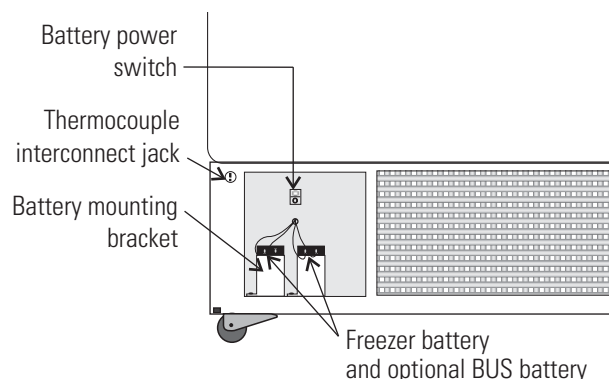

Figure 4-2. Battery Power Switch
3. Turn off the battery switch (O). See Figure 4-2.
9. Turn the battery power switch to Standby mode (C).